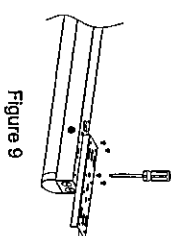

Figure 9
- Step1. Use the screws in the accessory kit to lock the bracket onto one lamp (figure 9)